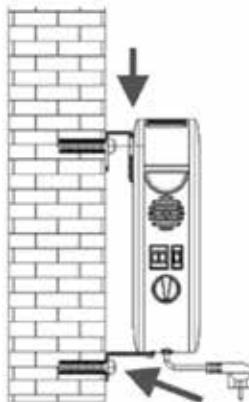

Fig. 7
- Hang the appliance on the suspension hooks installed on the wall and screw the spacers into the bottom holes (Fig. 7).